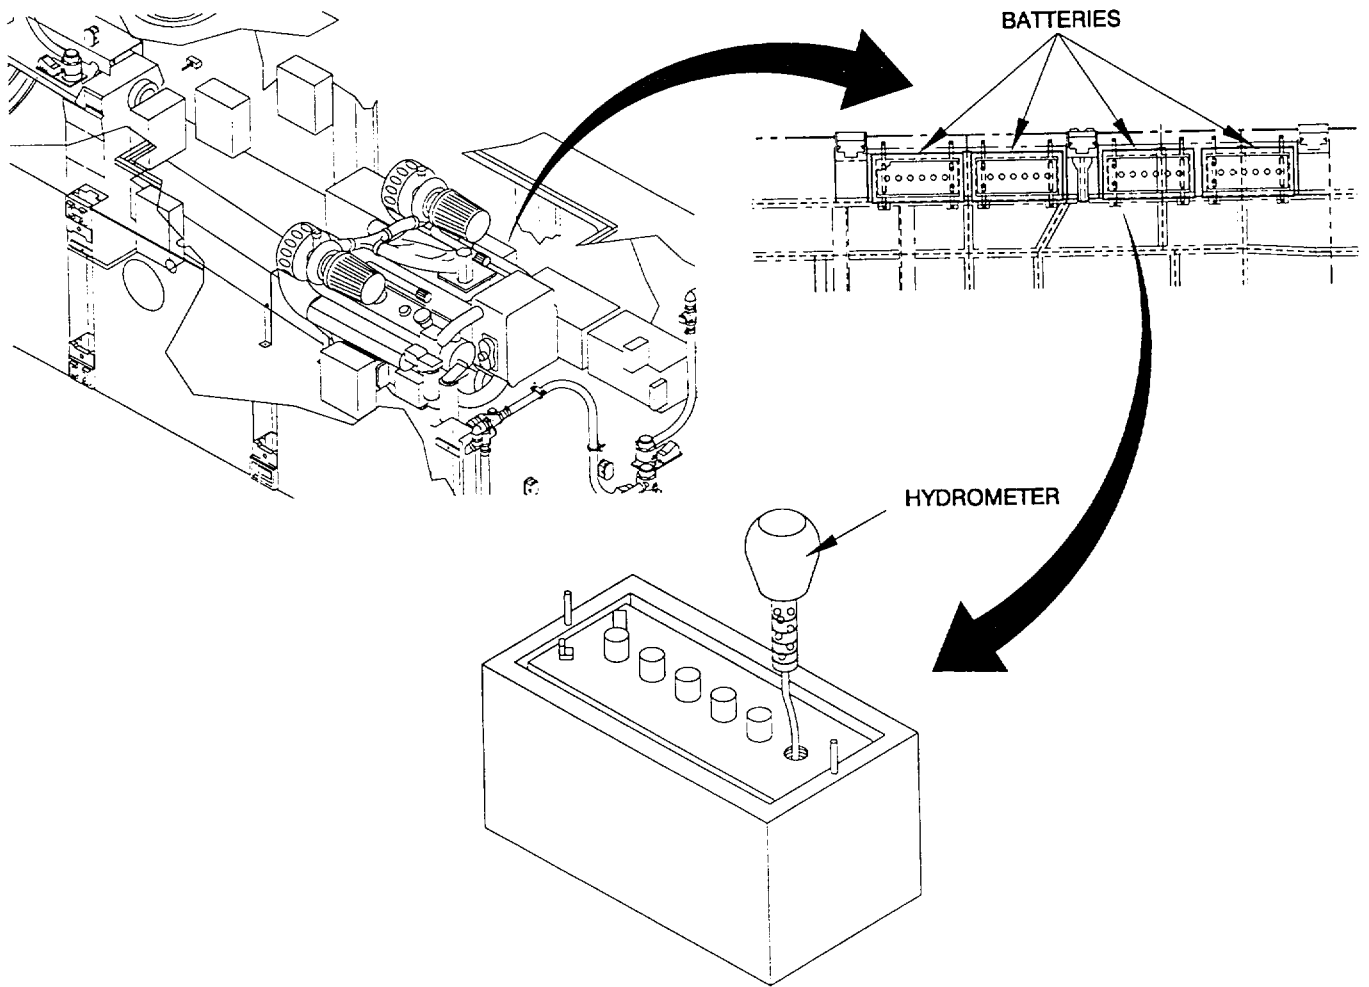
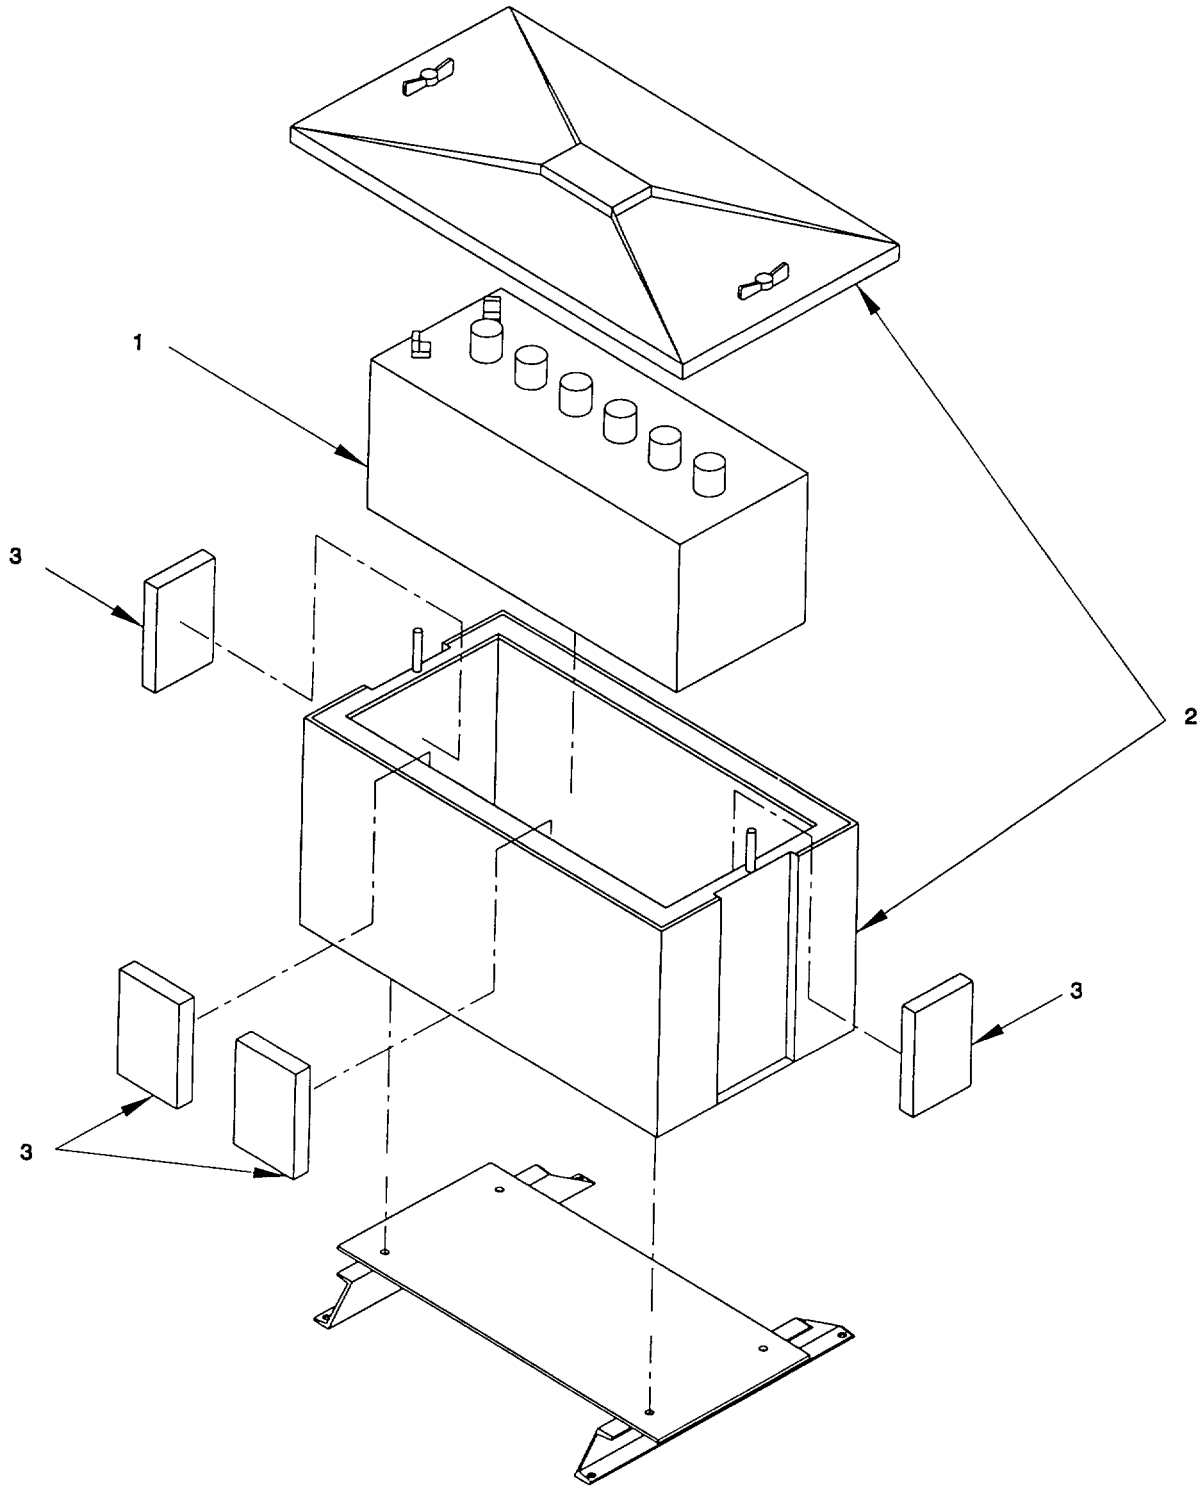

Figure 2-67. Battery, Test.
Figure 2-68. Battery, Service/Remove/Install
a. Test. (figure 2-67)
(1) Perform hydrometer test on all battery cells. Log results in vessel logbook.
b. Service. (figure 2-68)
(1) Remove the top cover of the battery box (2) for access to the battery (1).
- (2) Clean the connections at the battery (1) terminals with baking soda and water. Brush the terminals and clamps with a wire brush to remove any corrosion. Apply a coat of grease to battery (1) terminals.
- (3) Tighten the clamps and connections at the battery (1) terminal.
- (4) Bring the level of the electrolyte in each cell of the battery (1) to at least cover the top of the plates. Add distilled water if necessary.
- (5) Batteries should be charged to indicate 12.72 volts output or a specific gravity of 1.265 at 77° F. Charge, as necessary, at 10-20 amperes for approximately 2 hours.
c. *Remove.* (figure 2-68)
- (1) Remove the top cover of the battery box (2) for access to the battery (1).
- (2) Tag and disconnect wiring to the battery (1). Refer to Appendix G.
- (3) Remove battery (1) and collect four wooden blocks (3).
d. *Install.* (figure 2-68)
- (1) Install battery (1) and four wooden blocks (3) in battery box (2).
- (2) Reconnect wiring, as tagged to battery (1). Refer to Appendix G.
- (3) Install top cover of battery box (2).